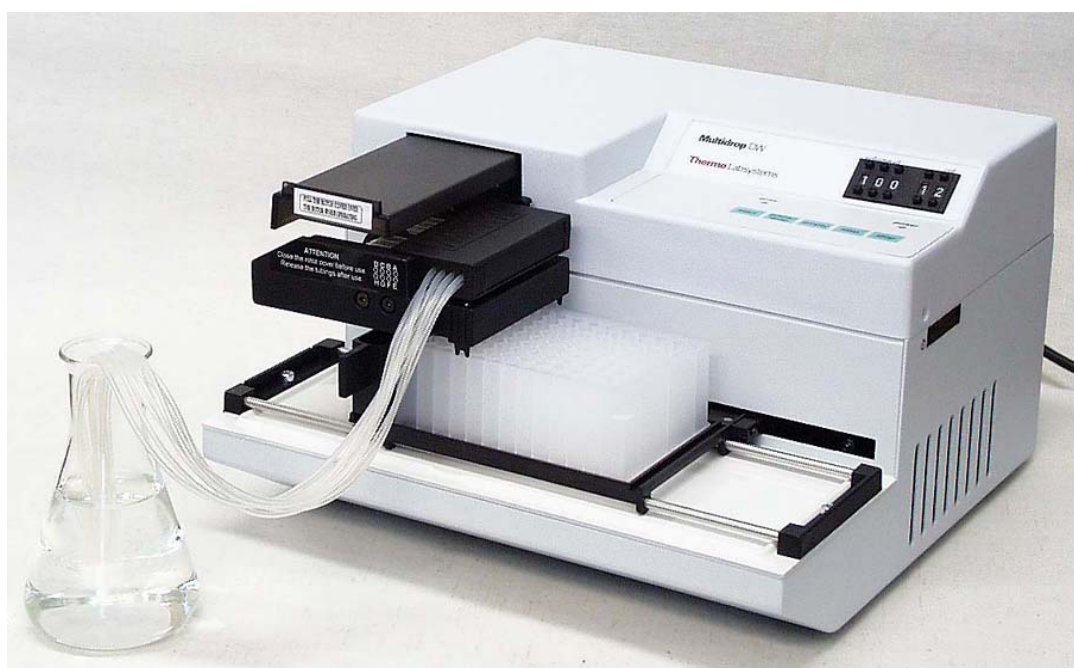

Fig. 6.23 Dispensing into a deep-well plate once the pump rotor height has been adjusted
9. Once the pump rotor height has been adjusted correctly for the 50 mm high deep-well plate, dispensing can proceed normally (*Fig. 6.23*).